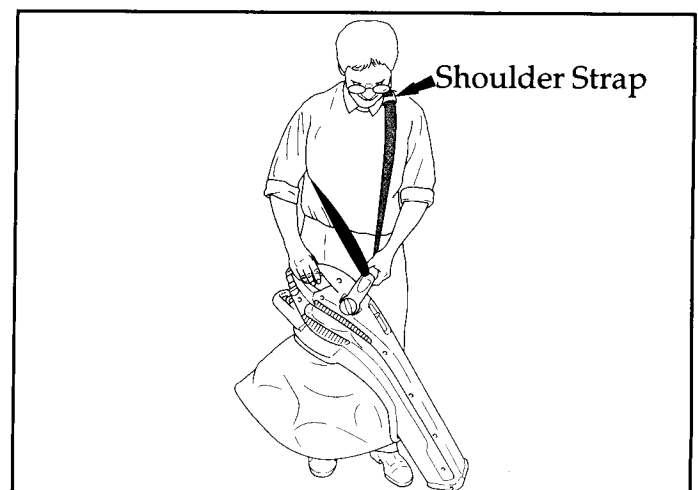

Figure 9
3. Hold the unit in an upright position, resting the bottom of the nozzle on the ground. Figure 9.
4. Place the shoulder strap over your shoulder and head. Adjust the shoulder strap to ensure the shoulder pad is in the most comfortable position. The handle should be positioned on your front side just below your waist. Figure 9